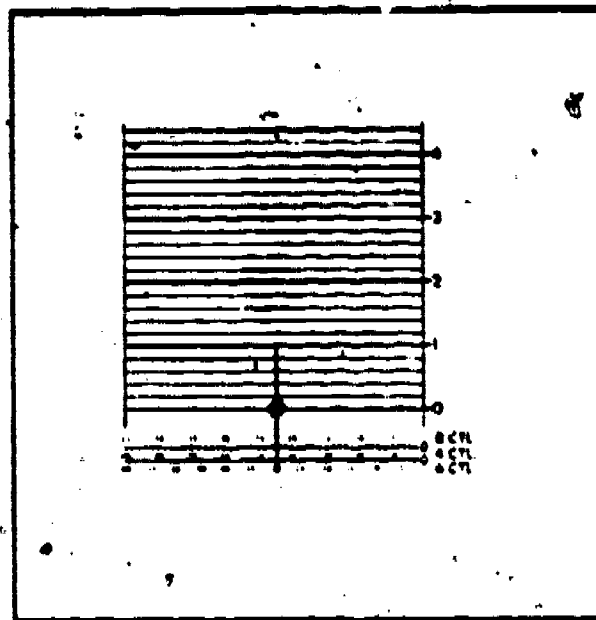

Figure 3-1. Coil Output Waveform Engine Cranking
c. Crank engine only long enough to note the coil output. Height of firing line should increase approximately to line 1. (See figure 3-1).